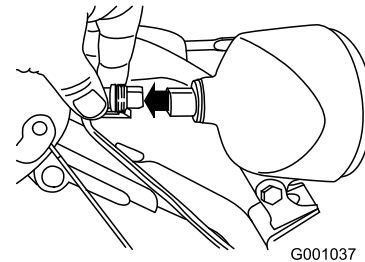

Figure 62
- Remove the wire connector from the back of the headlight (Figure 62).